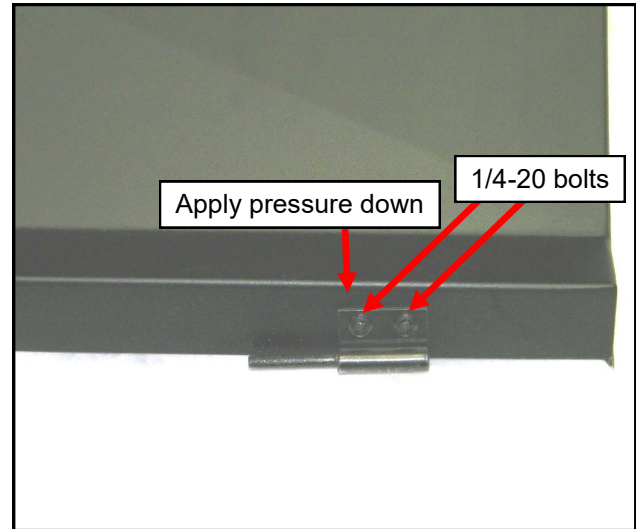

Fig. 15.1 (Rear canopy hinges)
**15.1** Per figure 15.1, loosen the (2) 1/4-20 bolts for each hinge on the front of the rear canopy. Apply pressure to the hinge down towards the front edge of the canopy and tighten the bolts.